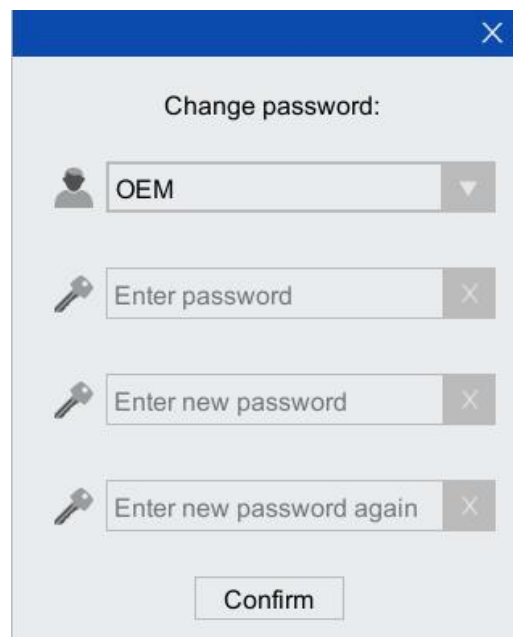

Figure 8-31 Modify password interface
- Step1. On the main interface of the teach pendant, click "System > User and Password > Change Password" option, and the interface as shown in Figure 8-31 will pop up.